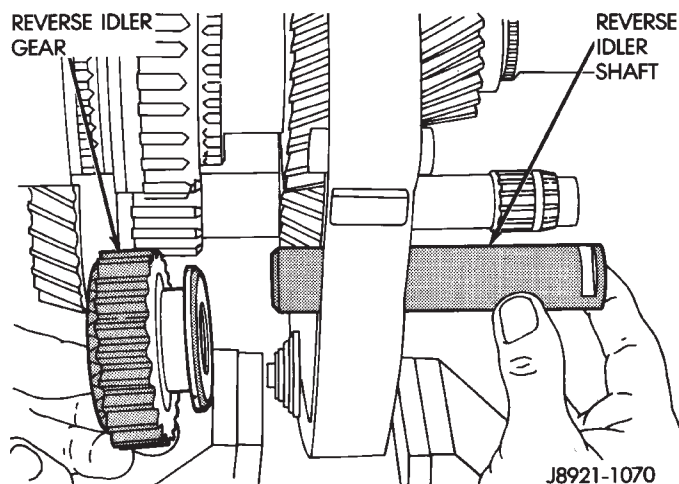

Fig. 63 Remove Reverse Idler Shaft And Gear
(15) Remove reverse idler gear shaft and gear (Fig. 63).